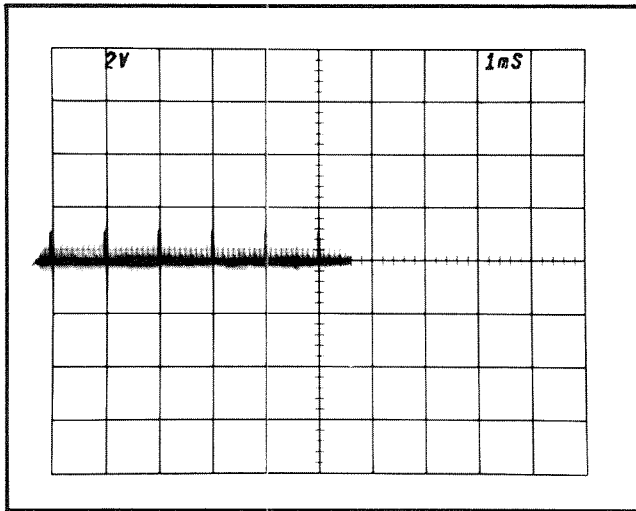

Fig. 5-6. CRT display when checking sweep length.
b. Move the eleventh 1 ms marker to the center vertical line with the horizontal POSITION control. See Fig. 5-6.